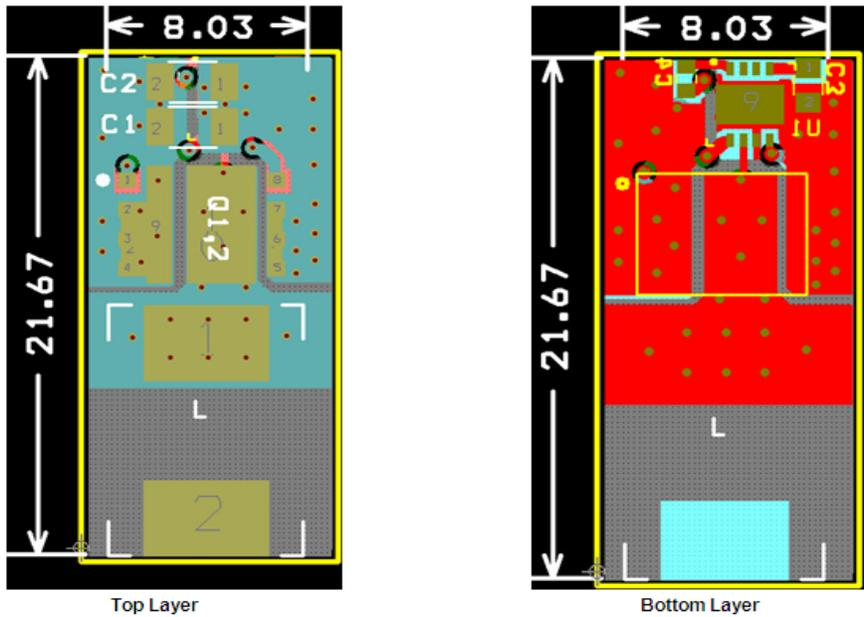

Figure 31. Recommended PCB Layout
2. The PHASE copper trace serves two purposes; In addition to being the current path from the Power Stage package to the output inductor (L), it also serves as heat sink for the lower FET in the Power Stage package. The trace should be short and wide enough to present a low resistance path for the high current flow between the Power Stage and the inductor. This is done to minimize conduction losses and limit temperature rise. Please note that the PHASE node is a high voltage and high frequency switching node with high noise potential. Care should be taken to minimize coupling to adjacent traces. The reference layout in Figure 31 shows a good balance between the thermal and electrical performance of Power Stage.
3. Output inductor location should be as close as possible to the Power Stage device for lower power loss due to copper trace resistance. A shorter and wider PHASE trace to the inductor reduces the conduction loss. Preferably the Power Stage should be directly in line (as shown in Figure 31) with the inductor for space savings and compactness.